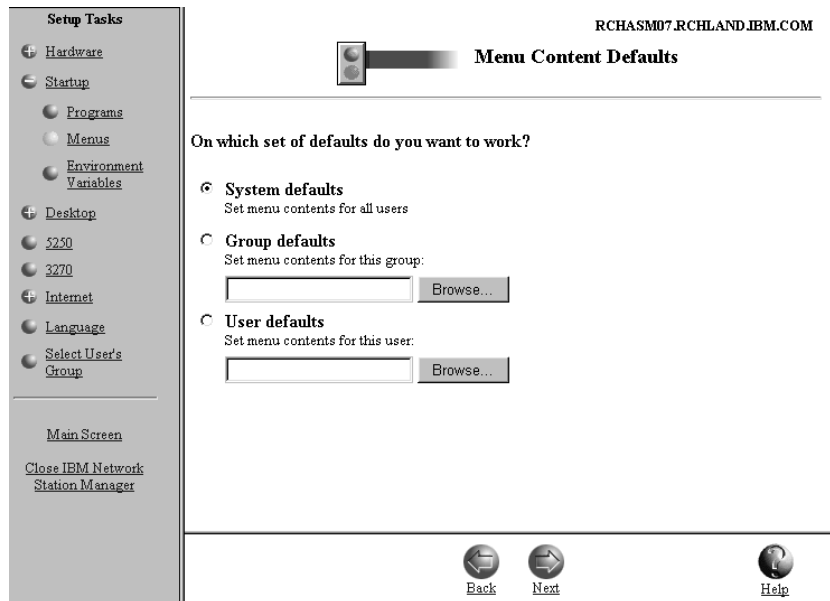

Figure 137. Menu Content Defaults Display
1. Click **Startup** and then **Menus** on the left side of the display. The Menu Contents Default display is shown (see Figure 137).